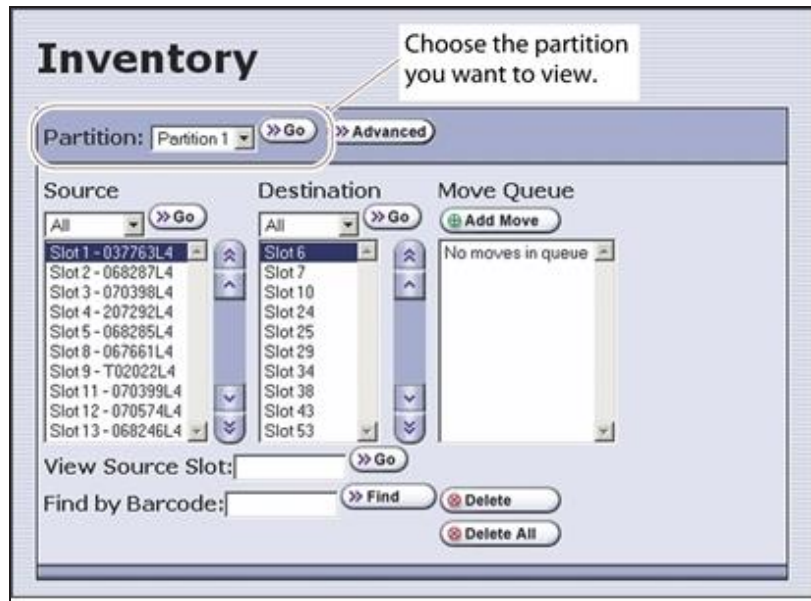

Figure 157 The Inventory screen.
4. If you want to download the inventory for a partition other than the one currently displayed, select the desired partition from the **Partition** drop-down list, then click **Go** (see Figure 157 on page 282).